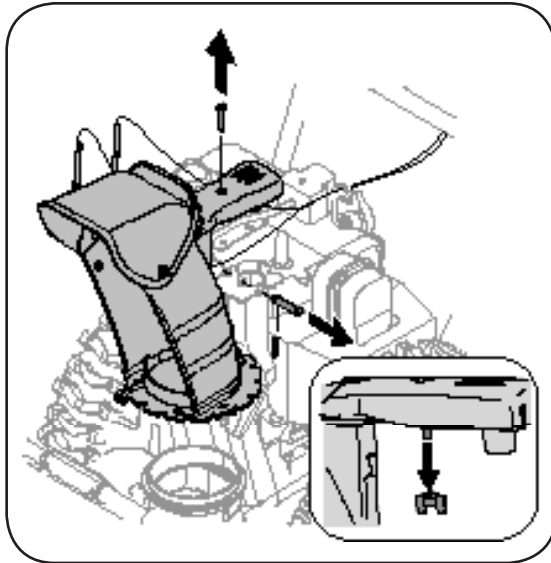

Figure 2
4. Remove wing nut and hex screw from chute control assembly and clevis pin and cotter pin from chute support bracket. See Figure 2. Position the chute assembly (forward-facing) over the chute base.